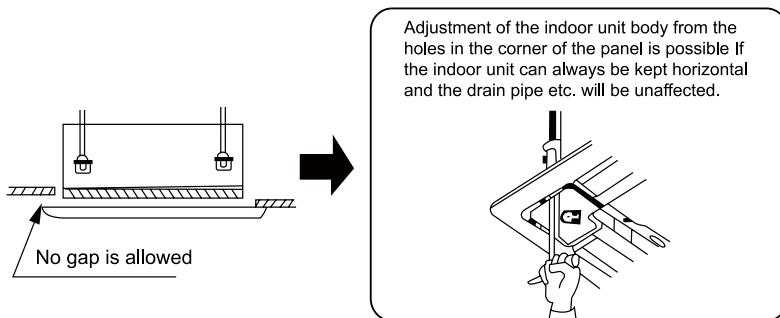

Fig.33
(3). If gap still exists between ceiling and decoration panel after tightening the screws, readjust the height of the indoor unit. (Fig.33)